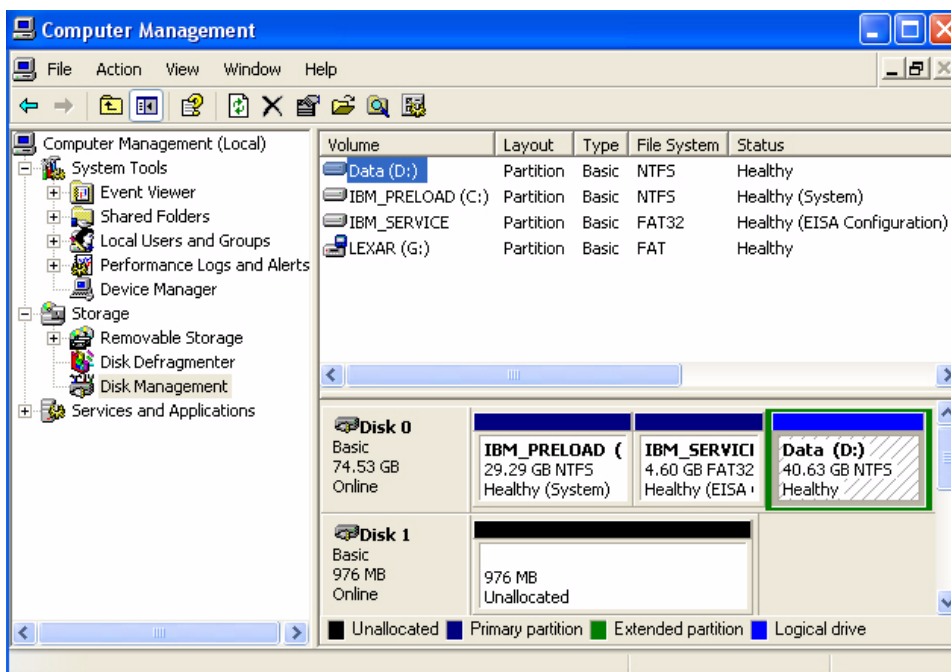

Figure 6: Connect as a Physical Drive
1. Right-click on the NANDrive icon in the right-hand pane. See Figure 6.